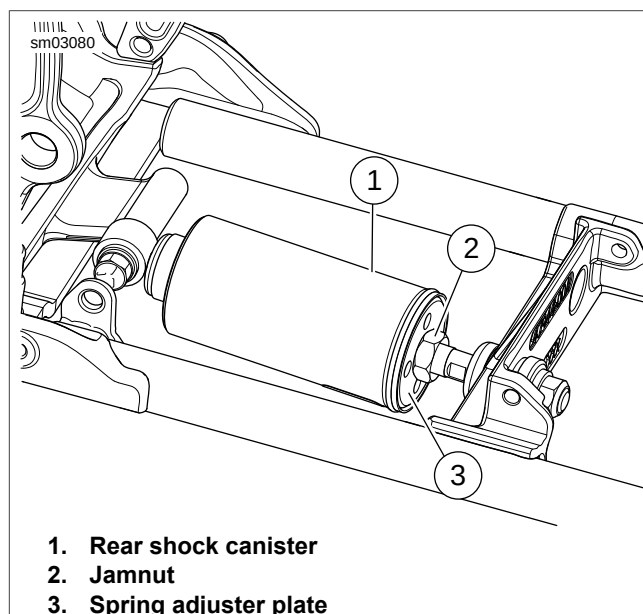

Figure 1-57. Rear Shock Adjustment
- See Figure 1-57. Hold the shaft with a wrench on the flats of the shock shaft and loosen the jamnut (2).
- Use the tangs of the SHOCK ADJUSTMENT SPANNER (Part No. 94448-82B) in the holes in the rear shock canister (1) to turn the canister clockwise until it stops. This is the minimum preload position.